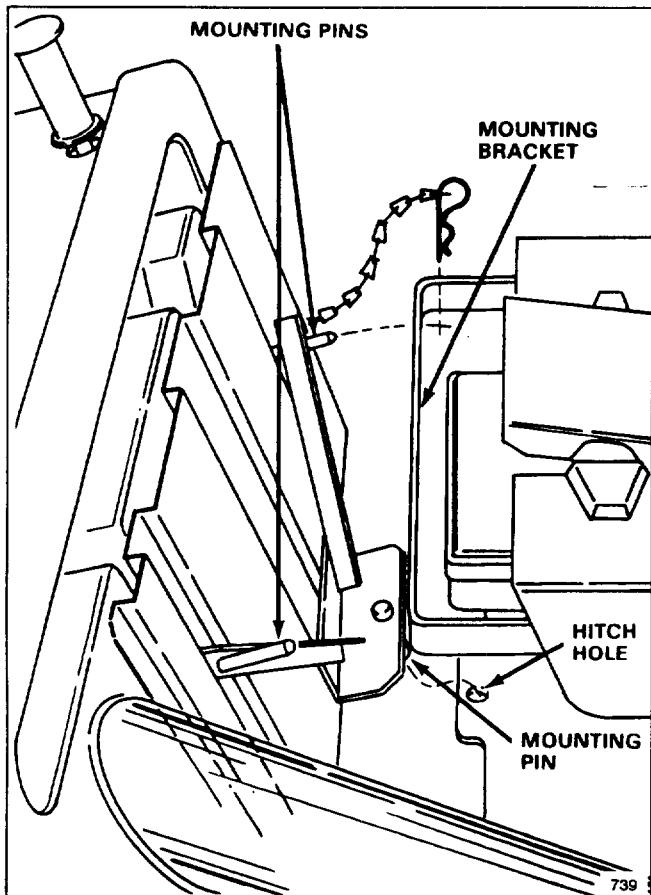

Figure 3
4. Insert grass catcher mounting pin into mounting hole in hitch (Fig. 3).
5. Rotate grass catcher up so mounting pins line up with mounting holes in rider mounting bracket. Push pins through holes and retain with hair pin cotten (Fig. 3).